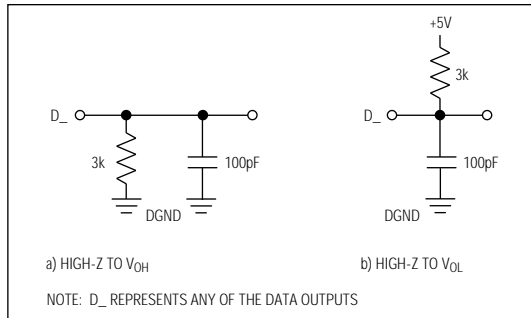

Figure 1. Load Circuits for Data-Access Time Test
**Note 6:**  $t_3$  and  $t_6$  are measured with the load circuits of Figure 1 and defined as the time required for an output to cross  $0.8\text{V}$  or  $2.4\text{V}$ .